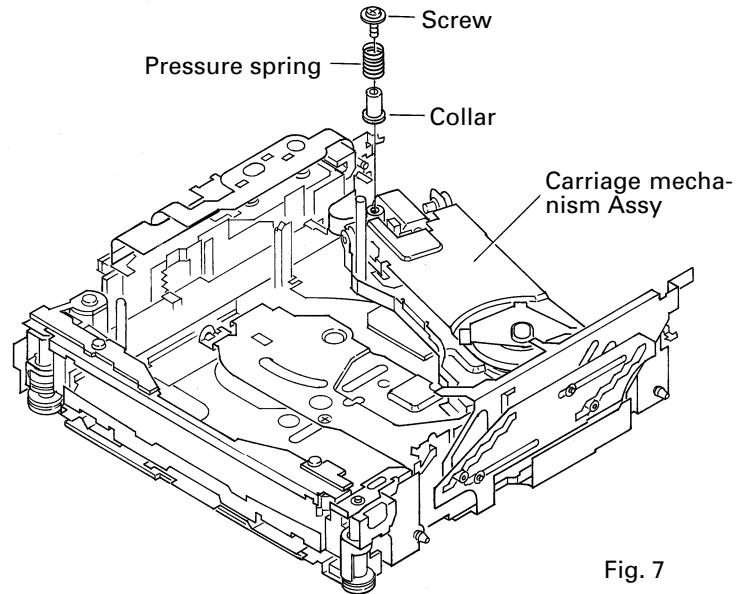

Fig. 7
5. Rotate the Cam gear motor until the positions of all holes (E) match, then stop the motor. (The Carriage Mech assy will stop as shown in the Fig.7.)